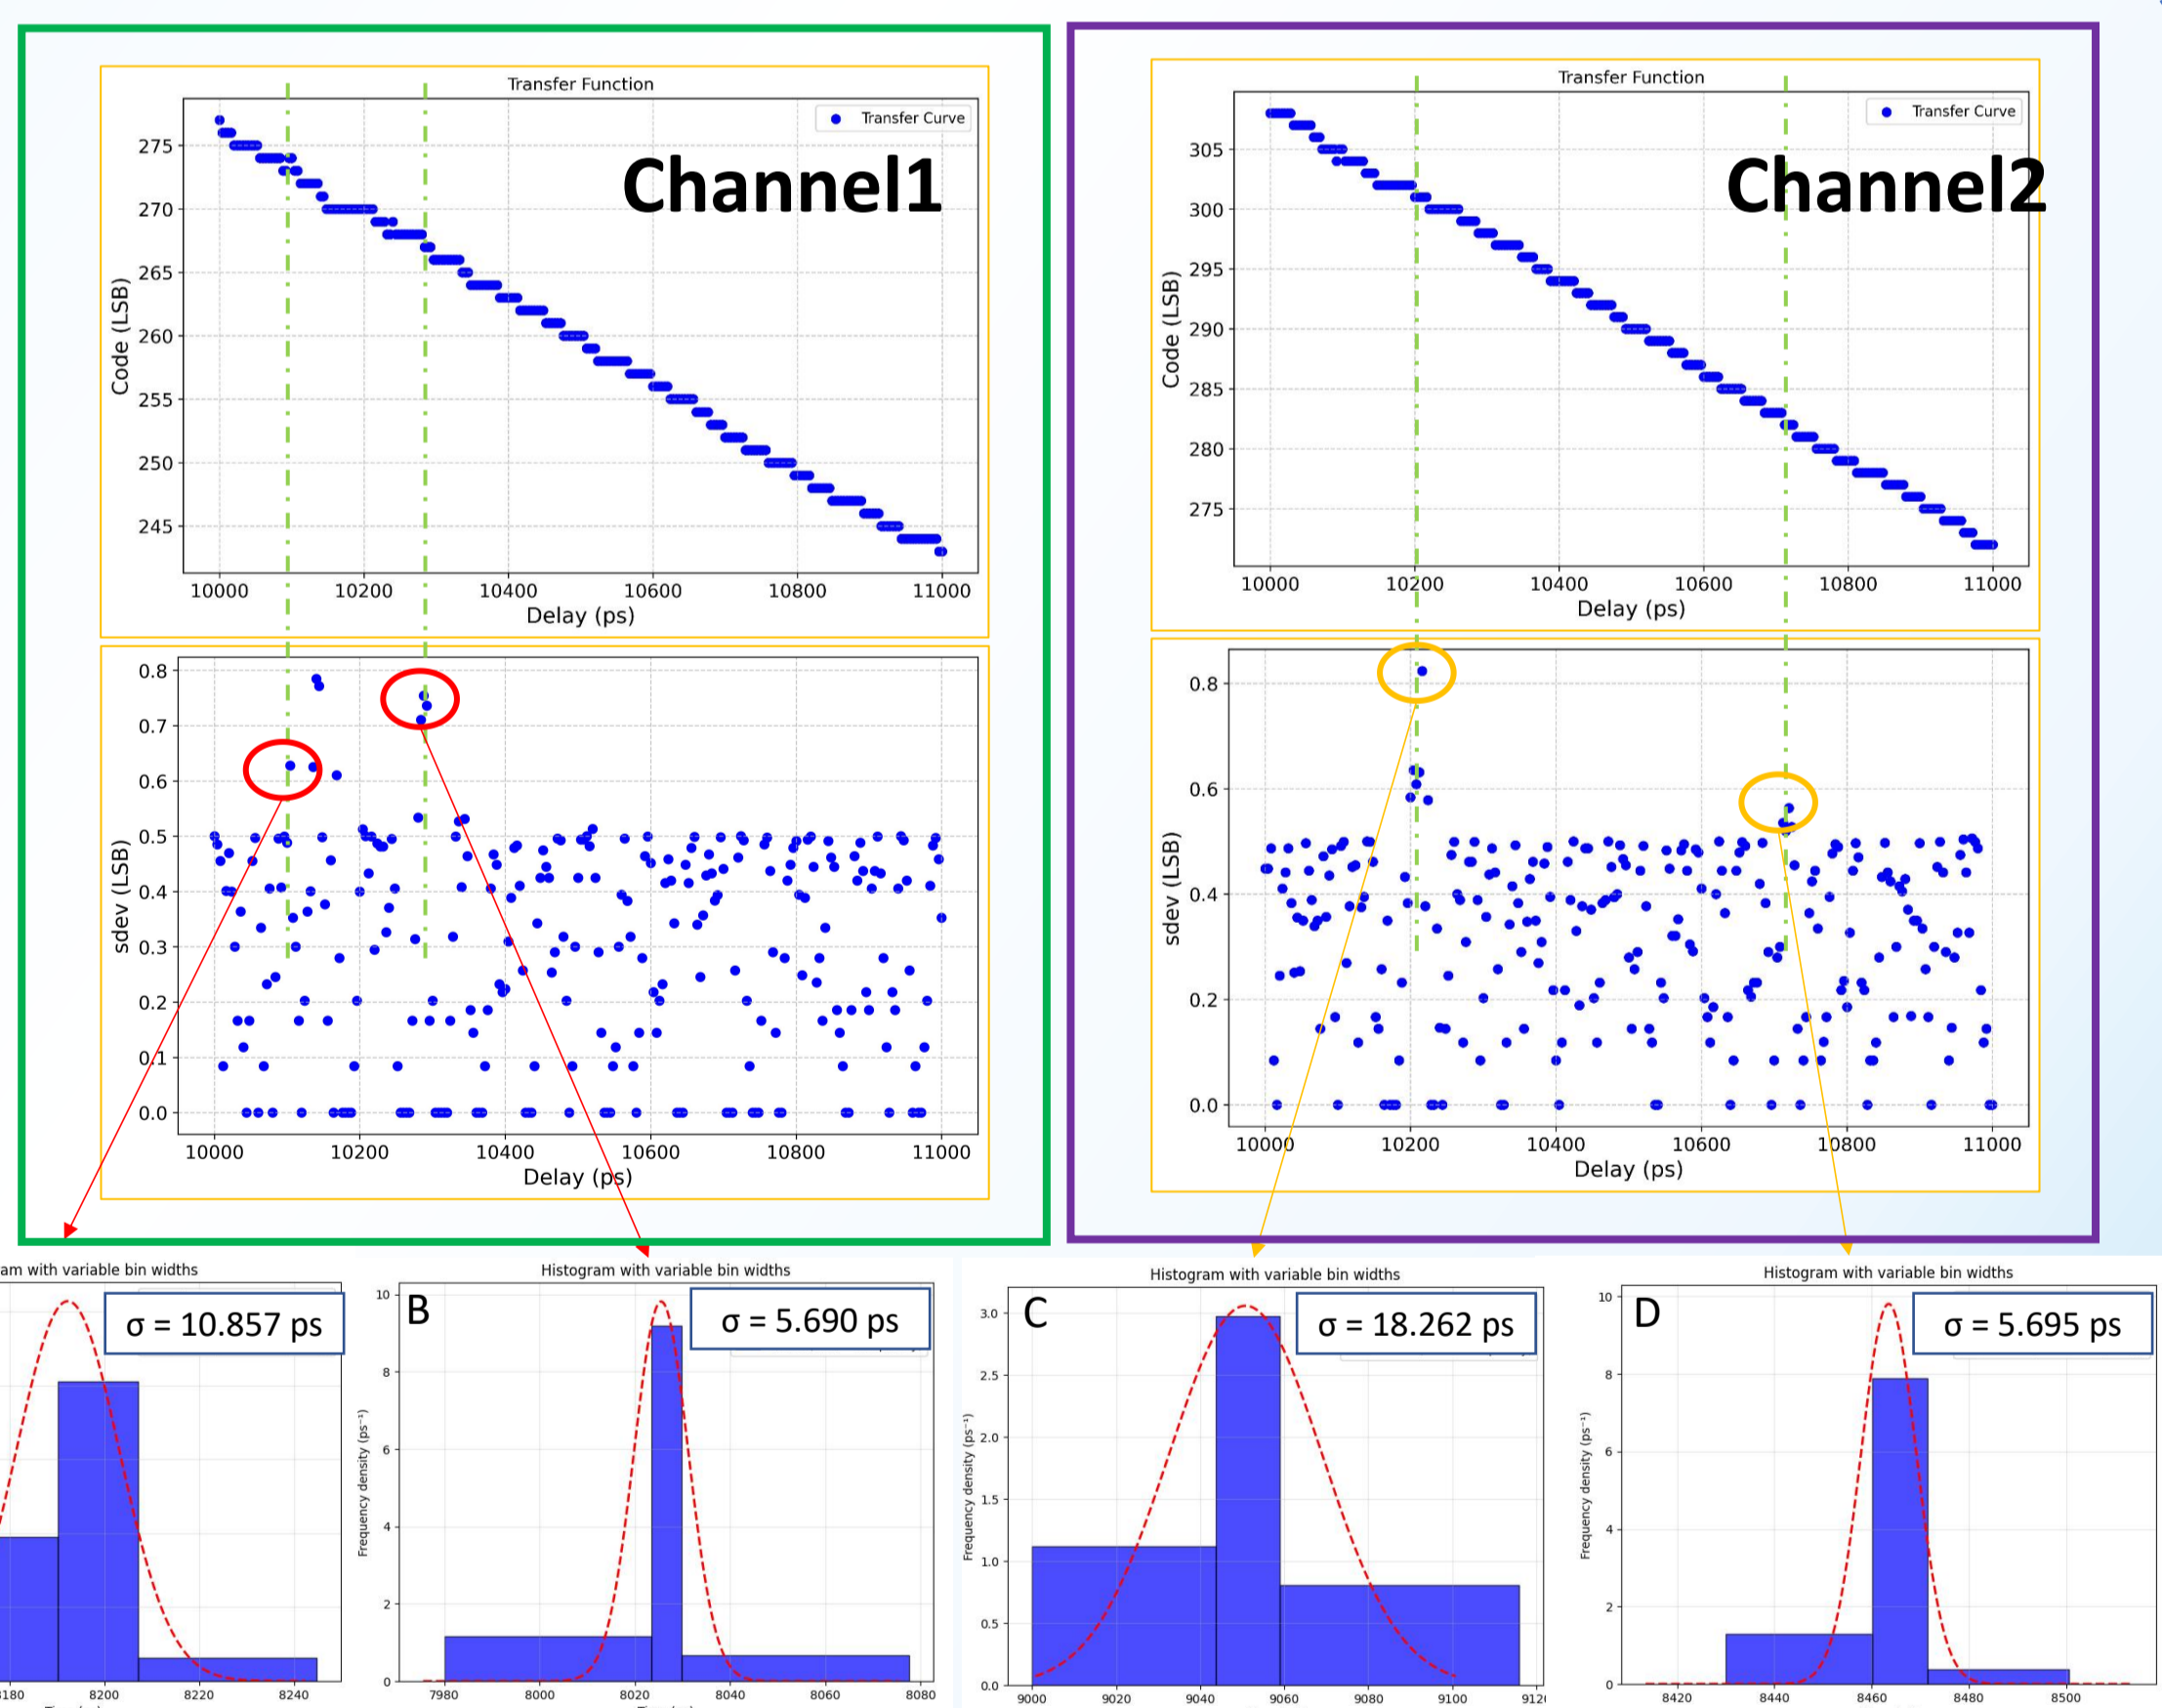

Fig. 5. Comparison of TOA measurement between Channel 1 and Channel 2 of LATIC1
- ❖ Compared with Fig.5.B and 5.D, the increase in the sdev caused by small bin sizes is alleviated.
- ❖ Fig.5.A and 5.C indicate that for some code, the jitter introduced by the circuit is larger, pointing to directions for circuit optimization.